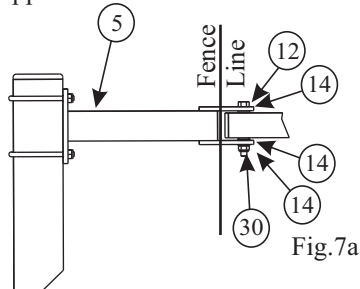

Fig.7a
Attach both Bottom Side Bars to the Through Fence Support Arms/Support Post Hinges (5), place M12 Nylon Washers (14) between the Support Arm and Bottom Side Bar and secure using M12 Bolt 100mm (12), Washers (14) and Nut (30). shown in Fig 7a/7b..